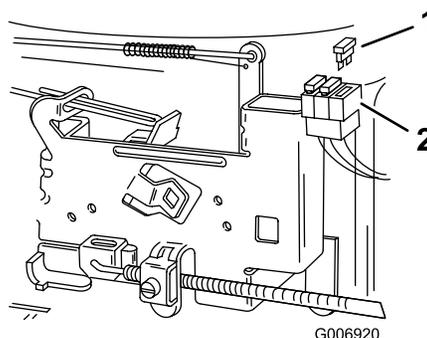

Figure 38
1. Pull up on the fuse (Figure 38) to remove it from the socket.